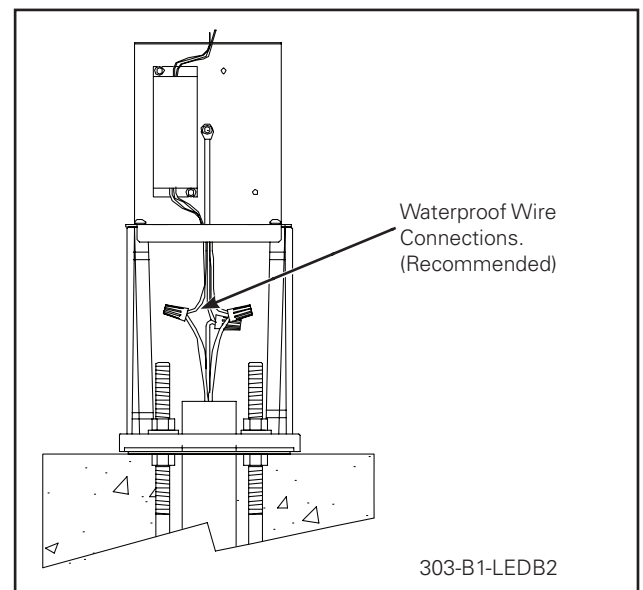
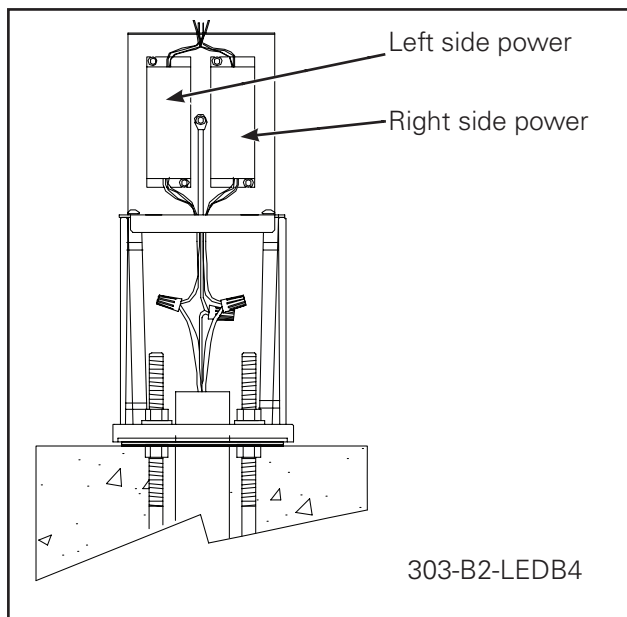

Figure 4.
Figure 5.
3. Reattach driver mounting plate to base and make connection to power (#10 AWG max). For the 303-B1, connect input wires to the driver using waterproof wire nuts (Figure 4.) For the 303-B2, connect the two drivers in parallel and connect to input power using waterproof wire nuts (supplied by others). (Figure 5.)